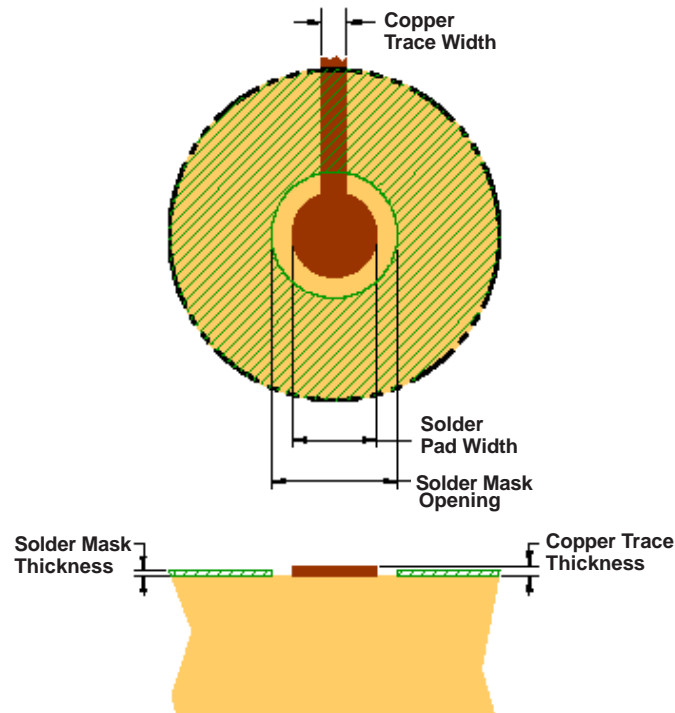

Figure 61. Land Pattern Dimensions
- When creating the pad size for the WCSP pins, TI recommends that the PCB layout use nonsolder mask-defined (NSMD) land. With this method, the solder mask opening is made larger than the desired land area and the opening size is defined by the copper pad width. Figure 61 shows and Table 29 lists appropriate diameters for a wafer-chip scale package (WCSP) layout.